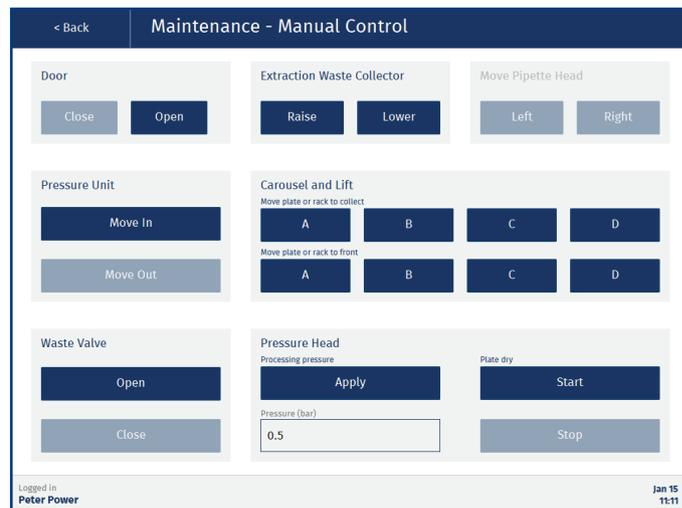

Figure 104. The Manual Control view.
- In the **Manual Control** view (see Figure 104), press **Close** in the **Door** field.